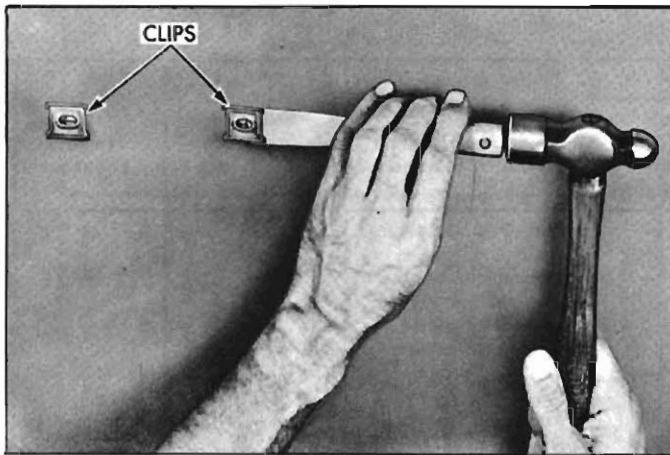

Fig. 21—Removing "Bath-Tub" Clip
1. Insert sharp edge of flat-bladed tool, such as a putty knife, under edge of clip and hammer tool until base of clip is cut approximately half-way through (fig. 21) then disengage clip from hole.